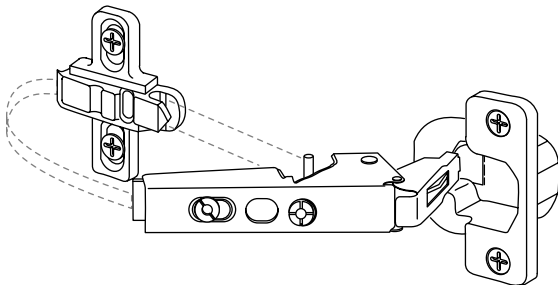

FIGURE 11
7. Reinstall the false bottom and door (see Figure 11).